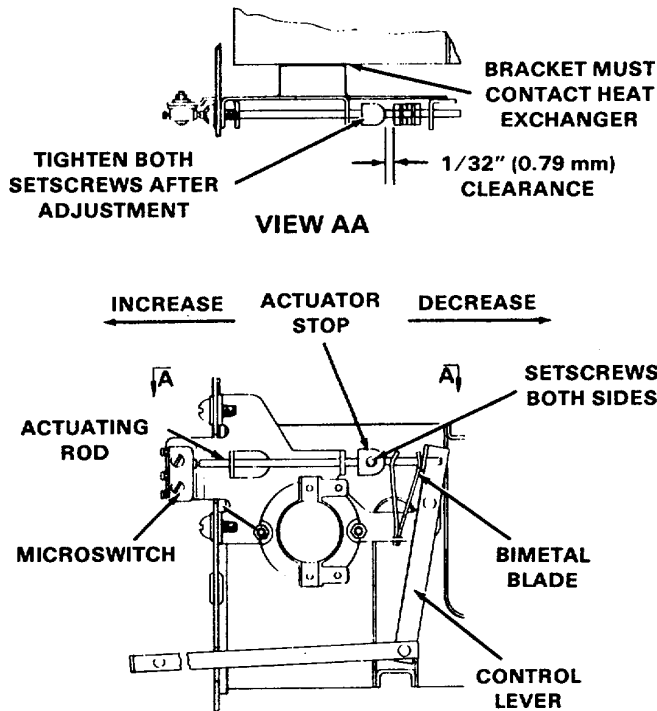

Figure 13D-5. HI-LO Control and Microswitch Adjustment
2. The V-shaped bi-metal blade (Figure 13D-5) expands to widen the gap at the top of the V when heated. As the bimetal blade expands, it strokes the actuator stop and pushes the actuating rod against the microswitch. This causes the heating circuits to de-energize.
To remove and disassemble the control end microswitch, proceed as follows (see Figure 13D-6):